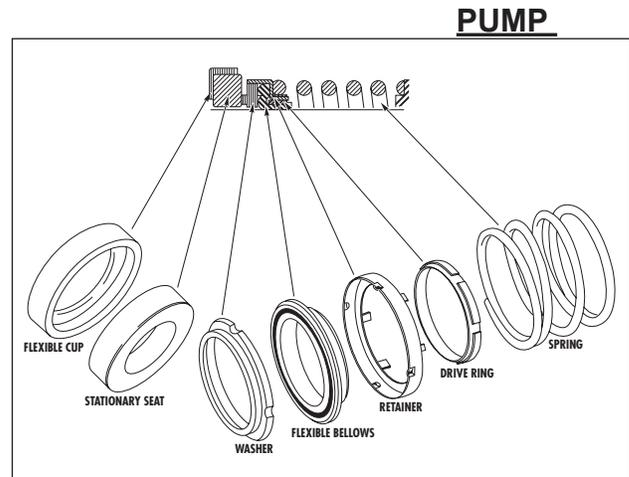

Figure 6. Mechanical Seal.
5. Remove the two foot support capscrews. Loosen, but do not remove the volute capscrews (5). Use capscrew in the jack screw holes to loosen the pump assembly from the volute.
6. Now remove the volute capscrews (5) and remove the pump assembly from the volute.
7. Remove the impeller capscrew (9), lockwasher (9A) and impeller washer gasket (9B). Remove impeller (11).
8. Remove impeller key (12).
9. Remove the O-ring (10).
10. Remove the rotating portion of the mechanical seal (head). *Refer to Fig. 6.*
The mechanical seal (see Fig. 6) (27) is a precision product and must be treated as such. During installation, great care must be taken to avoid dropping any part of the seal. Take particular care not to scratch the lapped faces on the washer or the sealing seat.
4. Install O-ring (10).
5. Install a new impeller key (12).
6. Install impeller, impeller washer (9A), new impeller washer gasket (9B), lock washer (9C), and capscrew (9). Tighten capscrew per torque chart (see Table 1).
7. Install new casing gasket (8). Then install the pump assembly into the volute.
8. Tighten volute capscrews (5) per torque chart (see Table 1).
9. Install foot support capscrews (62) and tighten per torque chart (see Table 1).